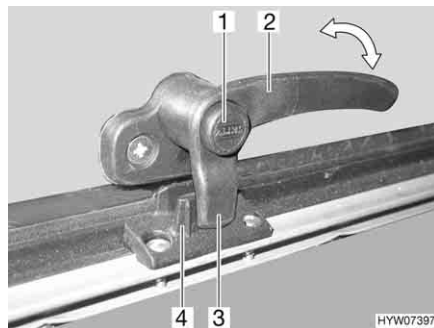
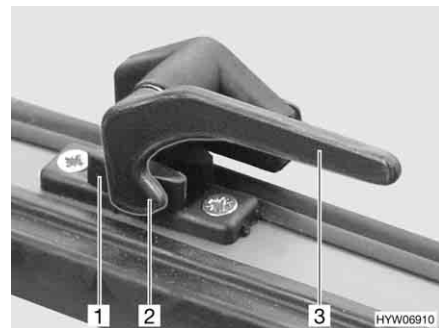

Fig. 96 Catch lever with safety knob in "closed" position
Fig. 97 Catch lever in "closed" position
- Press and hold the security button (Fig. 96,1), if present.
- Turn all catch levers (Fig. 96,2 or Fig. 97,3) a quarter turn towards the centre of the skylight.
- Turn all catch levers (Fig. 96,2 or Fig. 97,3) a quarter turn towards the frame. The locking catch (Fig. 96,3 or Fig. 97,2) is located on the inside of the skylight lock (Fig. 96,4 or Fig. 97,1).
- "Firmly closed" (Fig. 96 and Fig. 97)